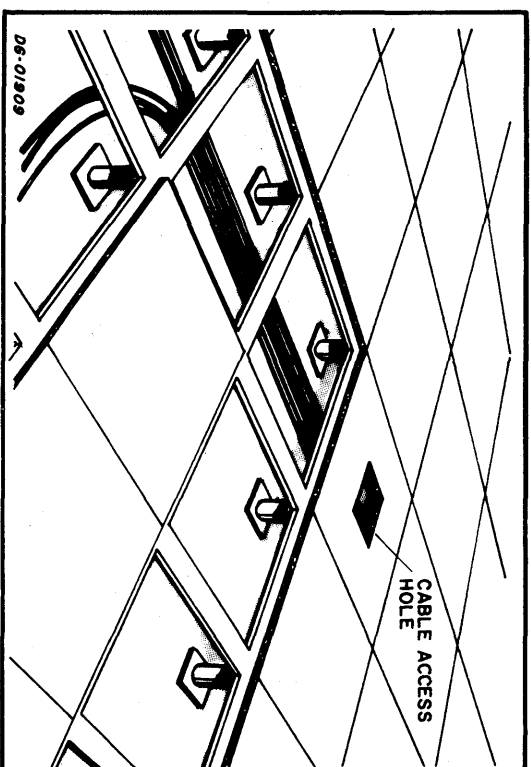
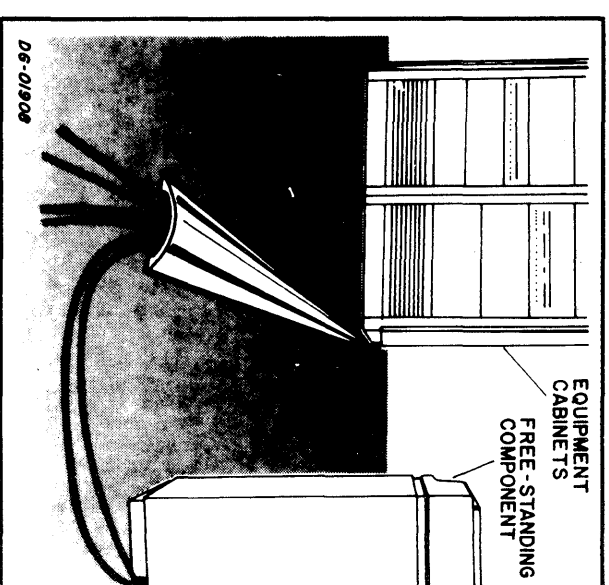

FIGURE 1
FIGURE 3
You should not leave external cables (those connecting freestanding or table top components to each other or to the equipment cabinets) where they can be damaged. Some methods of protecting cables are: (1) routing the cables under a raised floor, either the free access or raceway type (see Figures 1 and 2); (2) routing them under a cable ramp installed on the existing floor (see Figure 3); or (3) routing them along channels raised above head level (see Figure 4).